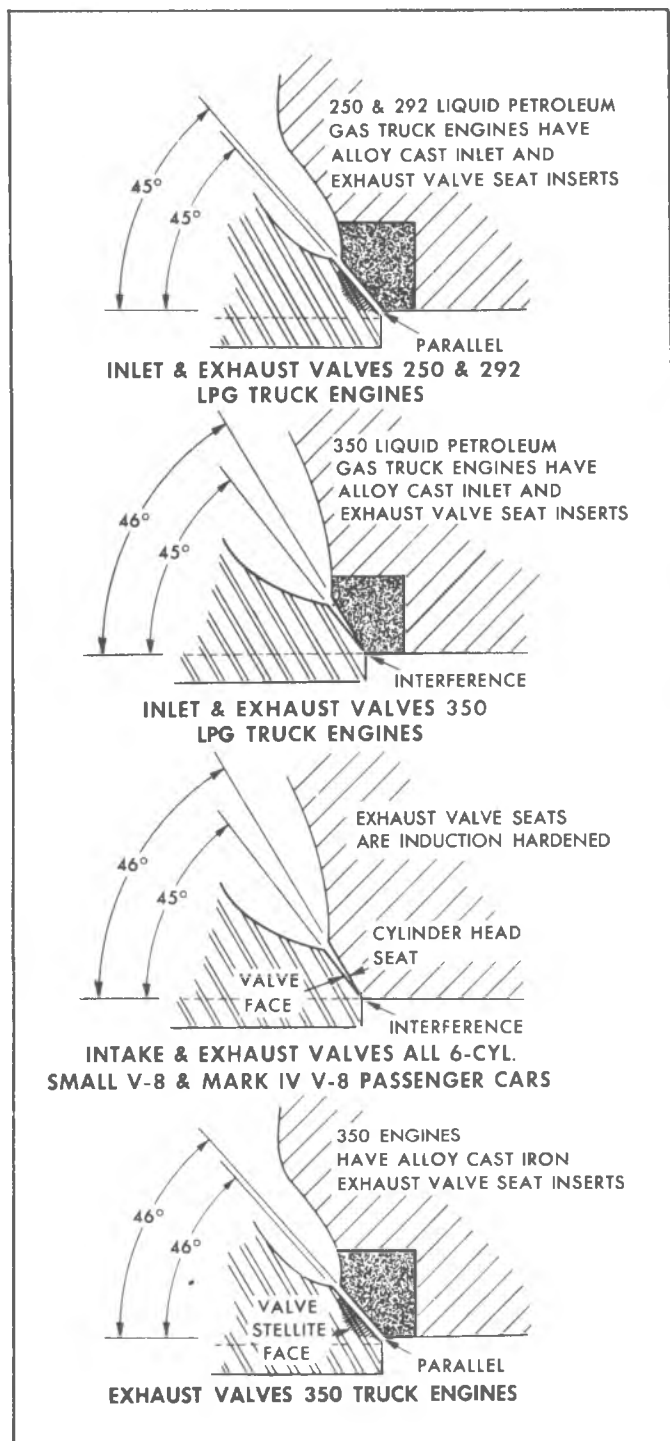

Fig. 23—Relation of Valve and Seat Angles
3. Remove roughing stone or forming stone from pilot, place finishing stone, cut to specifications, over pilot and cut just enough metal from the seat to provide a smooth finish. Refer to specifications and Figure 23.
1. If necessary, dress the valve refacing machine grinding wheel to make sure it is smooth and true. Set chuck at angle specified for valve. Refer to specifications and Figure 23.